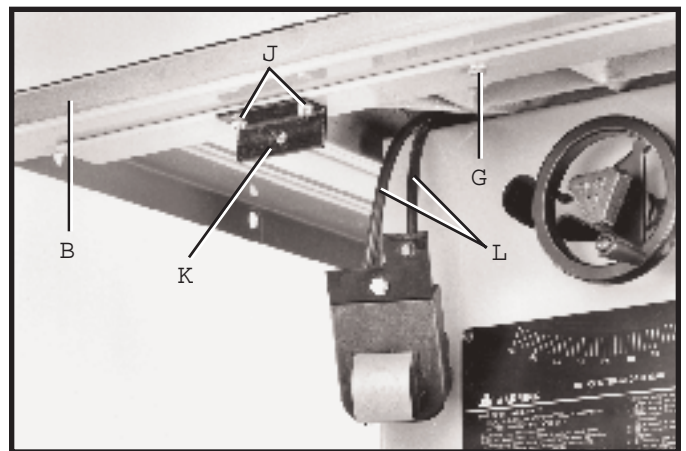

Fig. 22
20. Figure 22 illustrates the Contractor's Saw switch adapter (K) mounted to the front rail guide tube using two 3/4" long hex screws (J) and lockwashers.